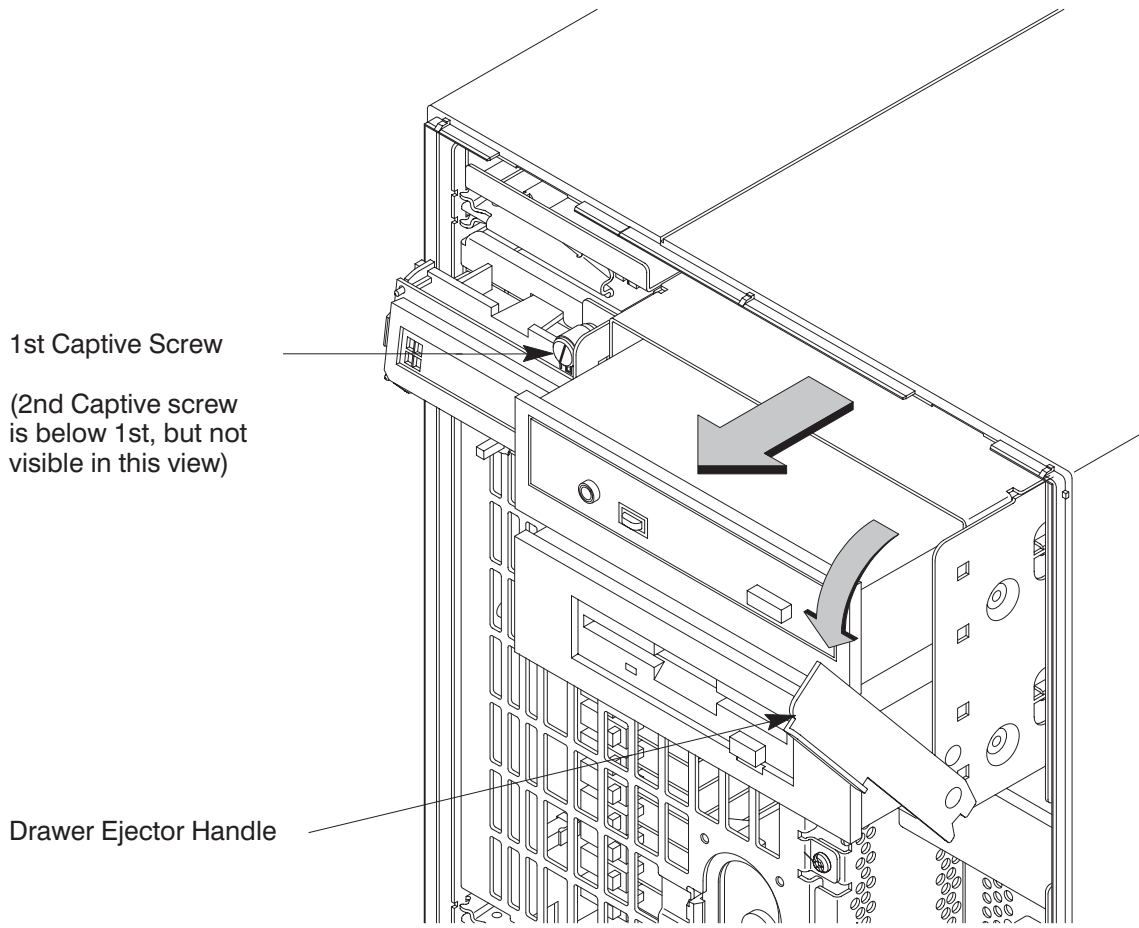

Figure B-3. Removing Storage Drawer from System Unit
2. Unscrew the two captive screws on the left side of the Storage Assembly and pull down the drawer ejector handle on the right side of the Storage Assembly, as shown in Figure B-3.